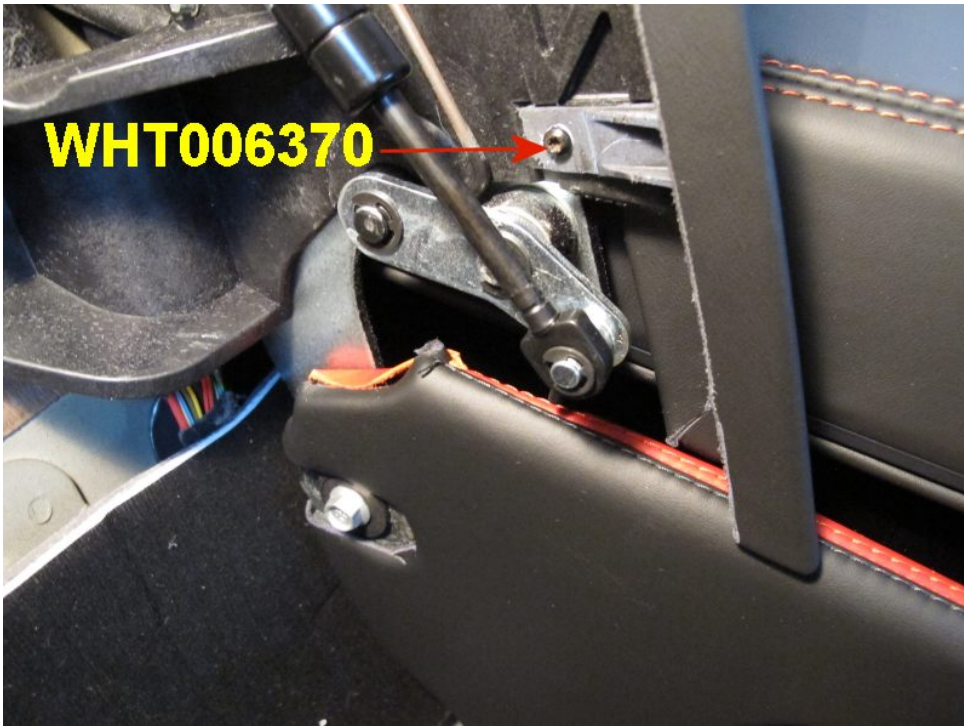

Figure 4
- Secure the lower clip with a single screw through this 2mm hole (part number WHT006370) (see Figure 4)